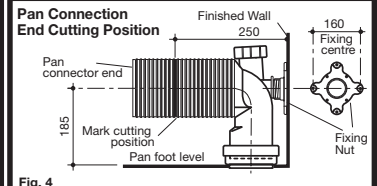

Fig. 4
- 5- Position fixing nut onto threaded spigot and refit connector into pan connector. Mark top three centre hole positions of the fixing nut on the finished wall. Determine and mark cutting position of pan connection end 250mm from finished wall and remove connector, as detailed in **Fig.4**.